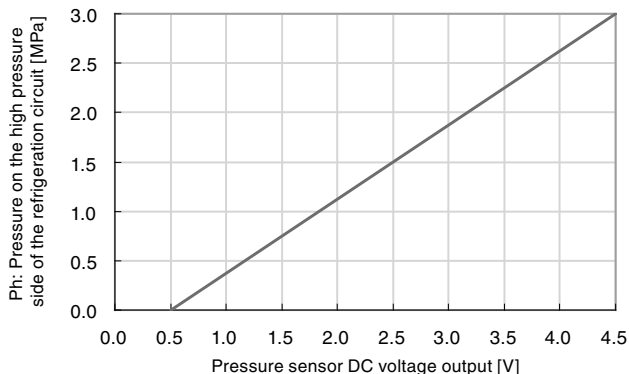

Fig. 4-37 Refrigerant circuit pressure sensor (for high pressure) analogue output
- (1) Check the “Ph: Refrigerant circuit pressure on the high pressure side” value in the “Check Monitor Menu”.
- (2) Check voltage by contacting the probe of the tester directly to the connector external surface with the “CN4” connector of the main board being inserted.
- (3) Contact the positive probe to the pin number 11 and contact the negative probe to the pin number 10 of the “CN4” connector.
- (4) Check that the voltage between the pin number 11 and the pin number 10 is in the same relationship shown in Fig. 4-37. (Accuracy: $\pm 5\%$)
- (5) If the voltage is in the same relationship as the graph shows, it means that the main board is operating correctly.